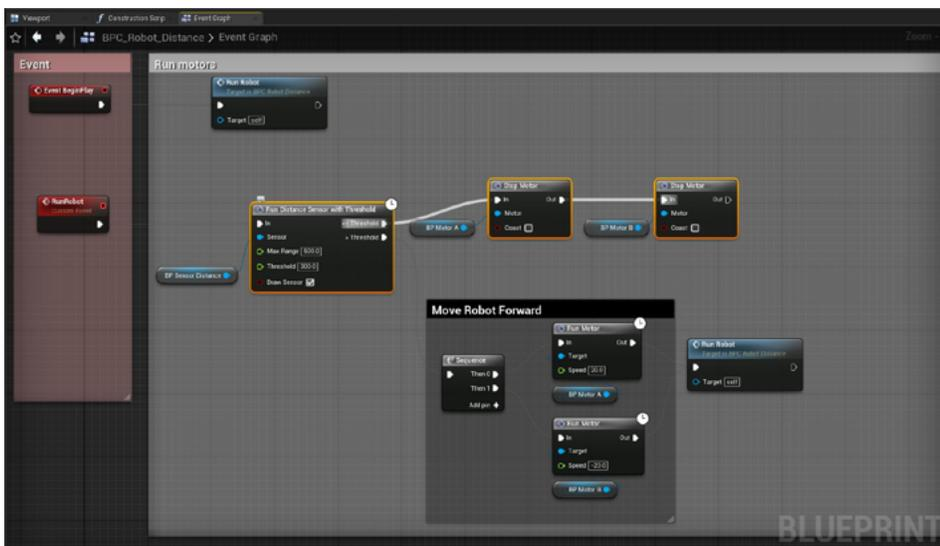

Figure 4-28
- The code should look like Figure 4-28